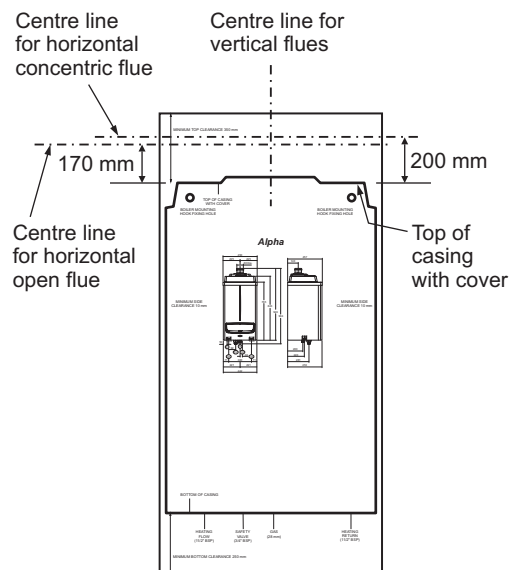

Fig. 4.3
4.3 PREPARE THE WALL - Fig. 4.3